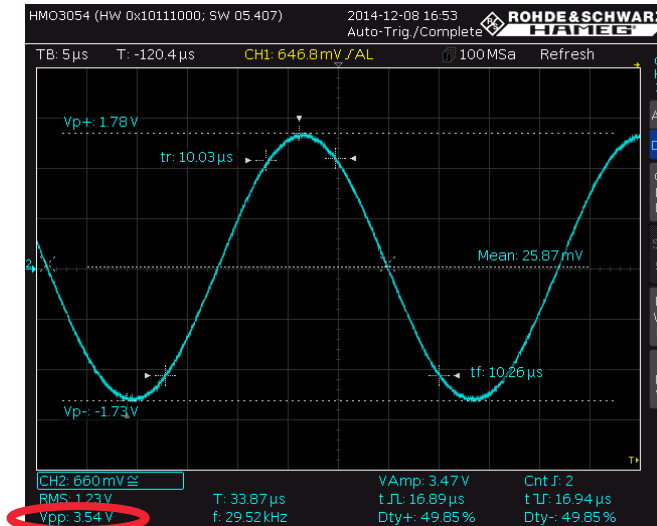

Fig. 2-42: Measured output voltage on the lowpass at the cutoff frequency.
- As described in Section 1.1, the following relationship exists for the output voltage at the cutoff frequency:  $u_{out} = \frac{u_{in}}{\sqrt{2}}$ . For this example, that calculates out to:  $u_{out} = \frac{4.99V}{\sqrt{2}} = 3.528 V$ . As seen in Fig. 2-42, the calculated value matches very well with the measured output voltage of 3.54 V.